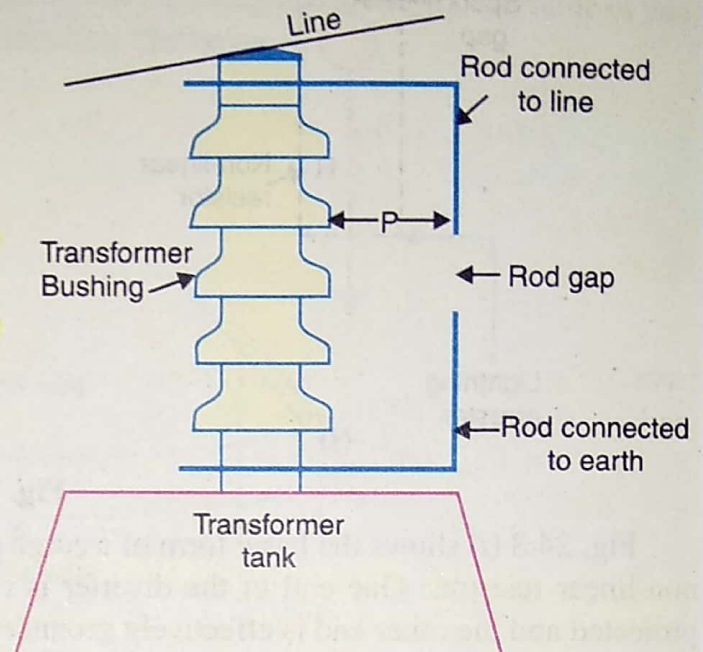

Fig. 24.9
1. Rod Gap Arrester. It is a very simple type of diverter and consists of two 1.5 cm rods which are bent at right angles with a gap inbetween as shown in Fig. 24.9. One rod is connected to the line circuit and the other rod is connected to earth. The distance between gap and insulator (i.e. distance P) must not be less than one-third of the gap length so that the arc may not reach the insulator and damage it. Generally, the gap length is so adjusted that breakdown should occur at 80% of spark-over voltage in order to avoid cascading of very steep wave fronts across the insulators. The string of insulators for an overhead line on the bushing of transformer has frequently a rod gap across it. Fig. 24.9 shows the rod gap across the bushing of a transformer.